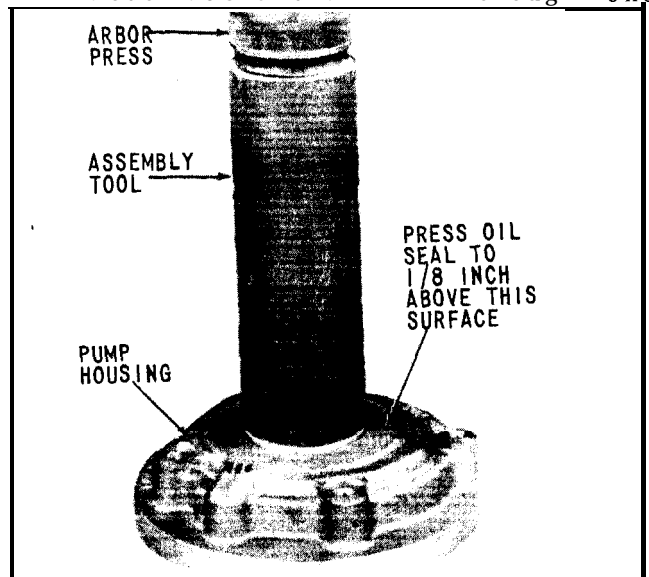

Fig. 105 Pressing Oil Seal
2. The pump assembly for the Model 70B' and 71B transmissions (71-A60) contains a different seal than the pump assembly with backing plate for the Model 70C and 71C (71-1A60). They are identical in all other respects. Therefore, when assembling the front pump assembly 71-A60 follow the information in (paragraphs S-15) pages 48 to 51, with the exception that the seal should be pressed into the pump housing until front face of seal is 1/8 inch above front face of Pump housing, (Fig. 105).